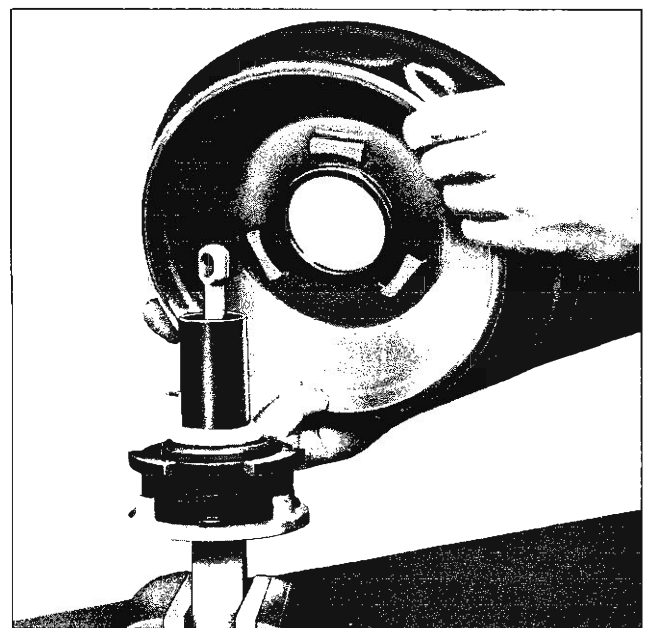

Fig. 32—Installing Power Piston to Support Plate
14. Install the power piston diaphragm on the support plate (opposite side of locking tang). (Fig. 32).